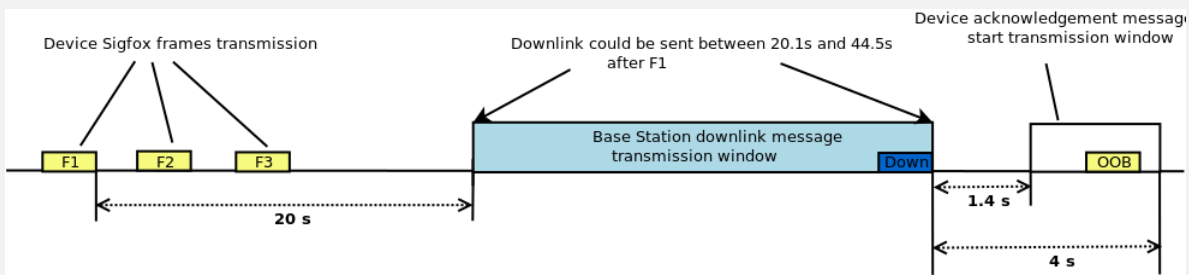

Figure 2: Downlink Timings (last chance to receive downlink frame case)
**Specification Description:** After receiving the downlink frame, *Device* or *Modular Design* has to wait 1.4 s and no later than 4 s before sending the acknowledgement frame (OOB), following the implementation described in the figure 2.